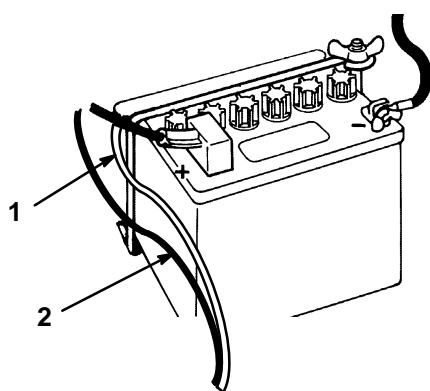

Figure 5
9. Install the battery with the terminal posts toward the rear of the machine and vent tube on left side of battery, thru hole in frame (Fig. 5).
11. Install the red positive cable (rubber boot over end) to the positive (+) terminal and the negative cable (black) to the negative (–) terminal of the battery and secure with capscrews and wing nuts. Slide the rubber boot over the positive terminal to prevent a possible short-out from occurring (Fig. 5).